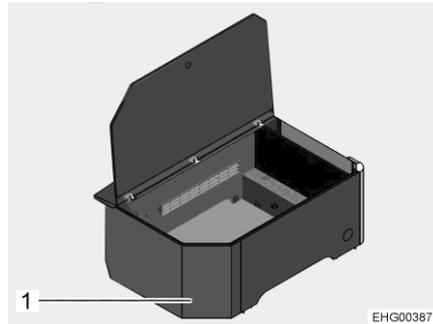
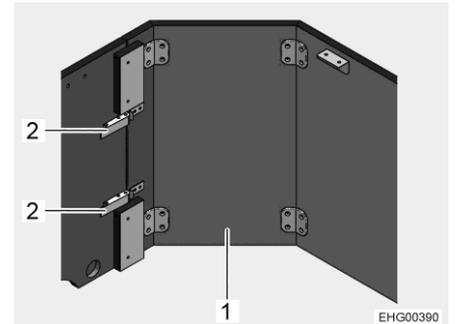

Fig. 17 Divan, open (shown without additional seat)
Fig. 18 Wooden element, removable
- Release both clamp fasteners (Fig. 18,2) on the removable wooden element (Fig. 17,1 and Fig. 18,1).